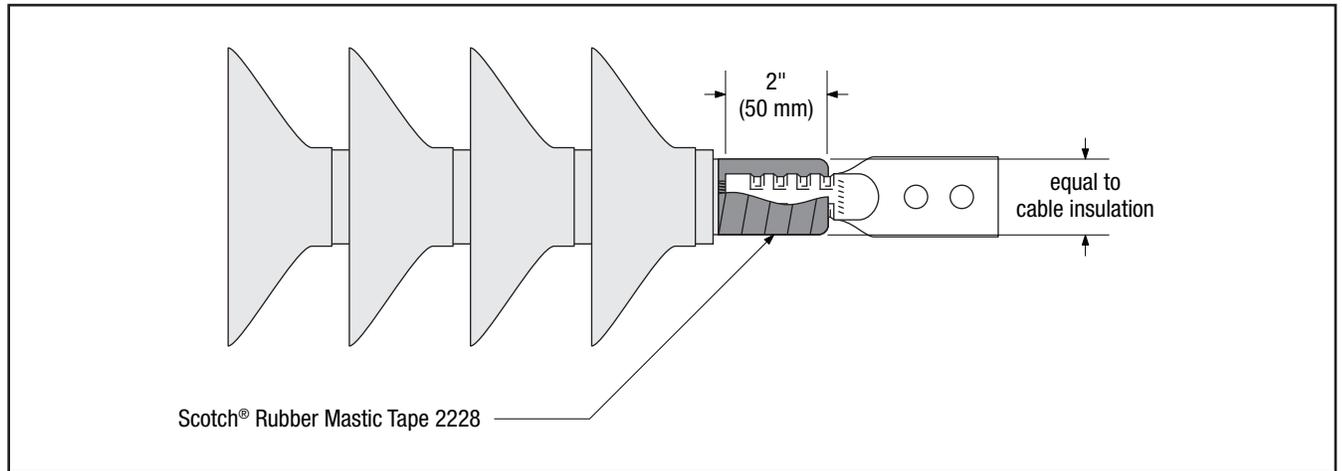

Figure 16
- 5.2 Wrap Scotch® Rubber Mastic Tape 2228 half-lapped over the lug barrel and insulation/lug gap, building to a diameter equal to the cable insulation. Cover 2" (50 mm) of the lug barrel. (Figure 16)